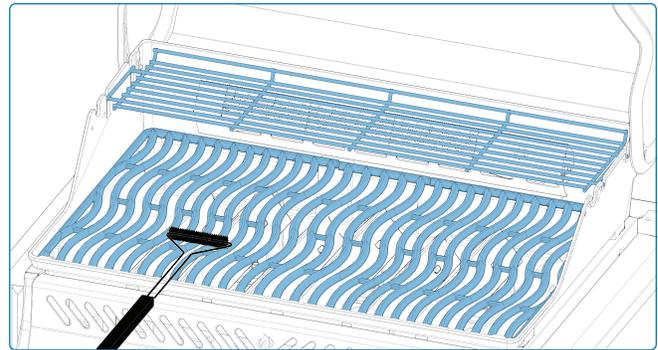

Fig. 8
- Clean stainless steel cooking grids by preheating the grill and using a wire brush to remove residue (**Fig. 8**).